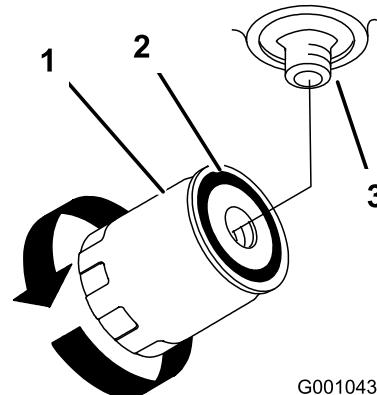

Figure 78
7. Apply a thin coat to the rubber gasket on the replacement filter (Figure 78).
9. Fill the hydraulic tank with hydraulic fluid until the fluid overflows the filter and then turn the oil filter clockwise until the rubber gasket contacts the filter adapter, then tighten the filter an additional 1/2 turn (Figure 78).